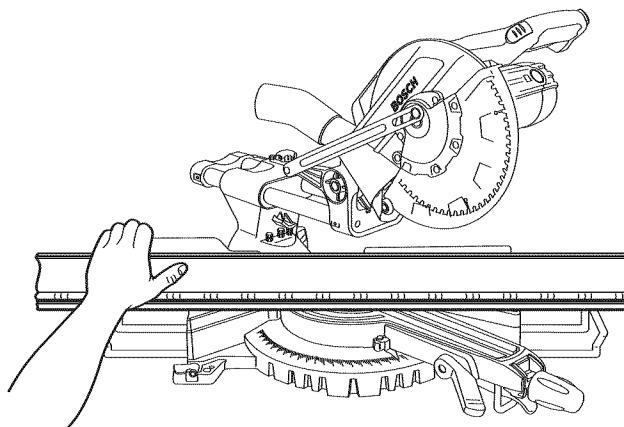

Figure 34. Crown Molding Angled to Table and Fence
- Set the miter angle using Chart 2. Tighten the miter lock knob (Figure 34).